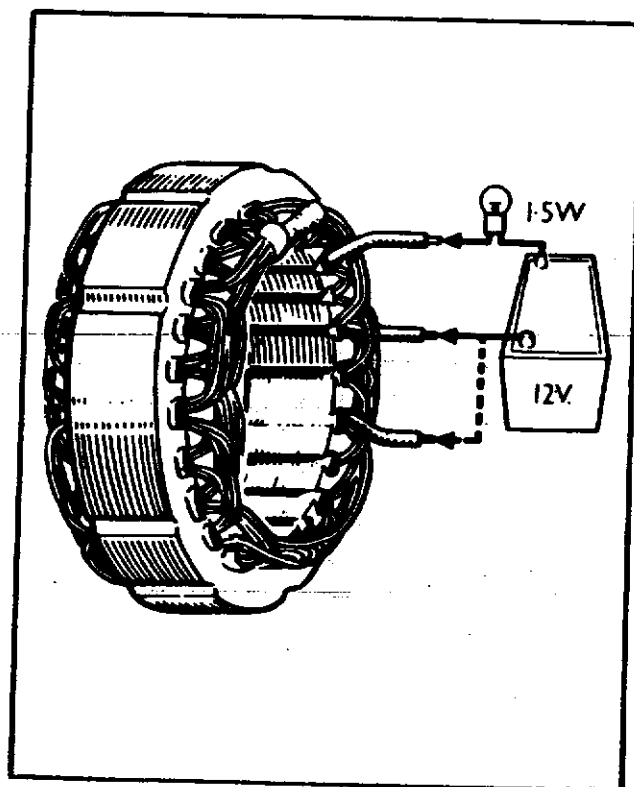

Fig. 26 – Stator Winding
1. Unsolder the three stator cables from the heat sink assembly, taking care not to overheat the diodes—(refer to “Heat Sink Replacement”). Check the continuity of the stator windings by first connecting any two of the three stator cables in series with a test lamp of not less than 36 watts and a 12-volt battery as shown in Fig. 26. Repeat the test, replacing one of the two cables by the third cable. Failure of the test lamp to light on either occasion means that part of the stator winding is open circuit and a replacement stator must be fitted.